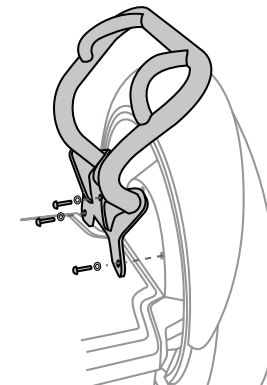

Figure 2. Install i2 Lower Cargo Frame
4. Thread three of the included 28 mm fasteners through three of the included flat washers, the i2 SE Lower Cargo Frame, the Gearbox Cover, and into the Gearbox. Torque the fasteners to **6.0 N-m (4.4 ft-lbf)**. See **Figure 2**.